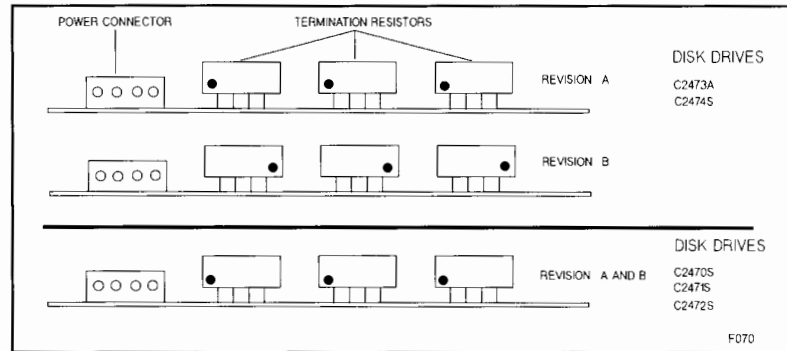

Figure 5-7. Internal Disk Termination Resistor Orientation
6. **Ensure the SIP resistor packs are correctly installed:** For the C247xS mechanisms shipped as the system disk, the orientation of the resistors depends on the revision of the disk controller PCA. For Revision-A PCAs (identified by the jumper wires on the controller board) pin 1 (identified by a black dot) should face toward the DC power connector. For Revision-B PCAs (identified by the letter "B" below the "HP" logo), pin 1 should face the opposite direction. Most shipments will be Revision-B PCAs. Figure 5-7 shows how the termination resistors should be oriented on the internal disk drives.